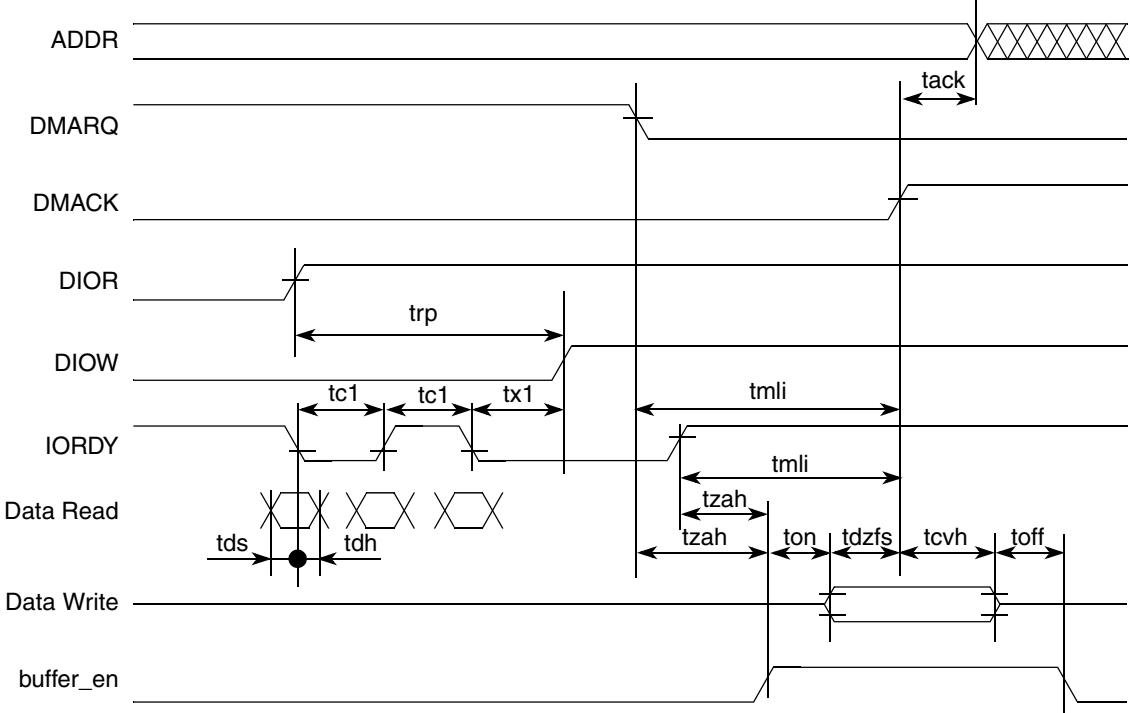

Figure 28. UDMA In Host Terminates Transfer
- Figure 28 gives timing for host terminating UDMA in transfer